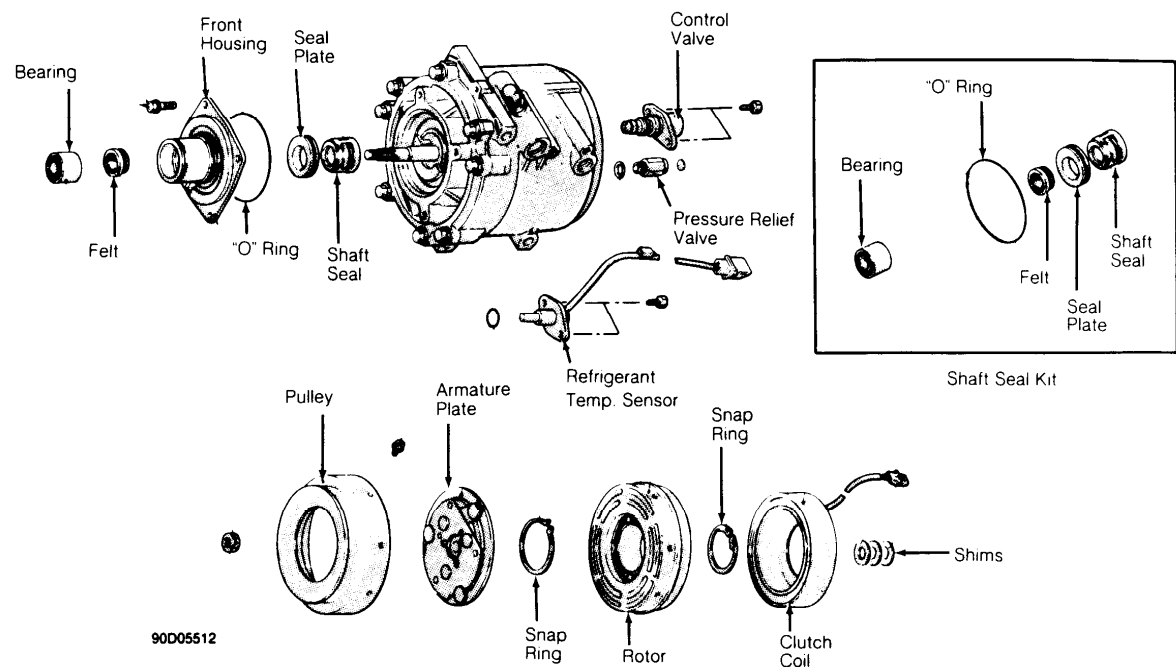

Fig. 7: Harrison R-4 Radial Compressor
2. Using Seal Installer (J-33011), install "O" ring and coat with refrigerant oil. Coat seal seat with refrigerant oil and install using seal seat remover/installer. Install snap ring. Install dust seal (if supplied in seal kit). See Fig. 7 .